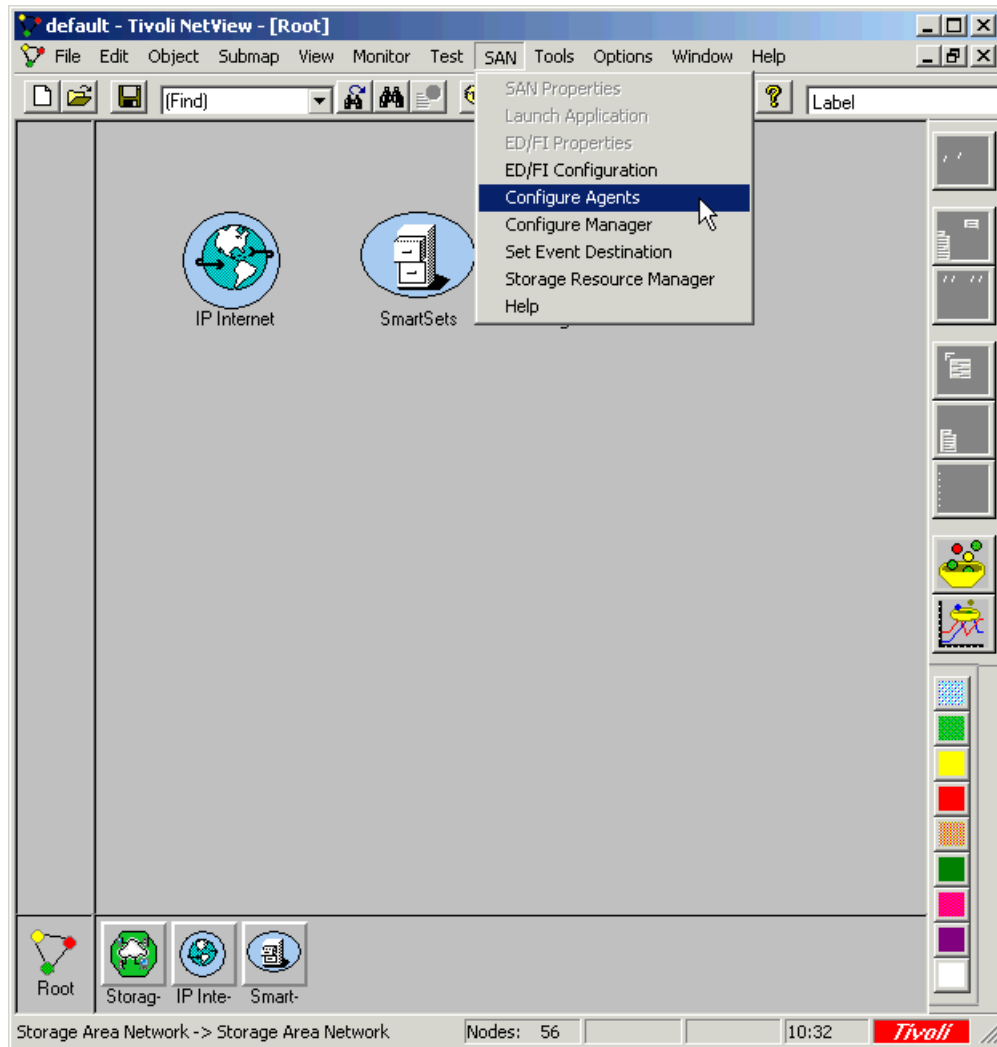

Figure 14-6 Configure agents
2. Select **SAN -> Configure Agents** to start adding your switch IP addresses and the servers on which you installed the Tivoli SAN Manager agent (see Figure 14-6).